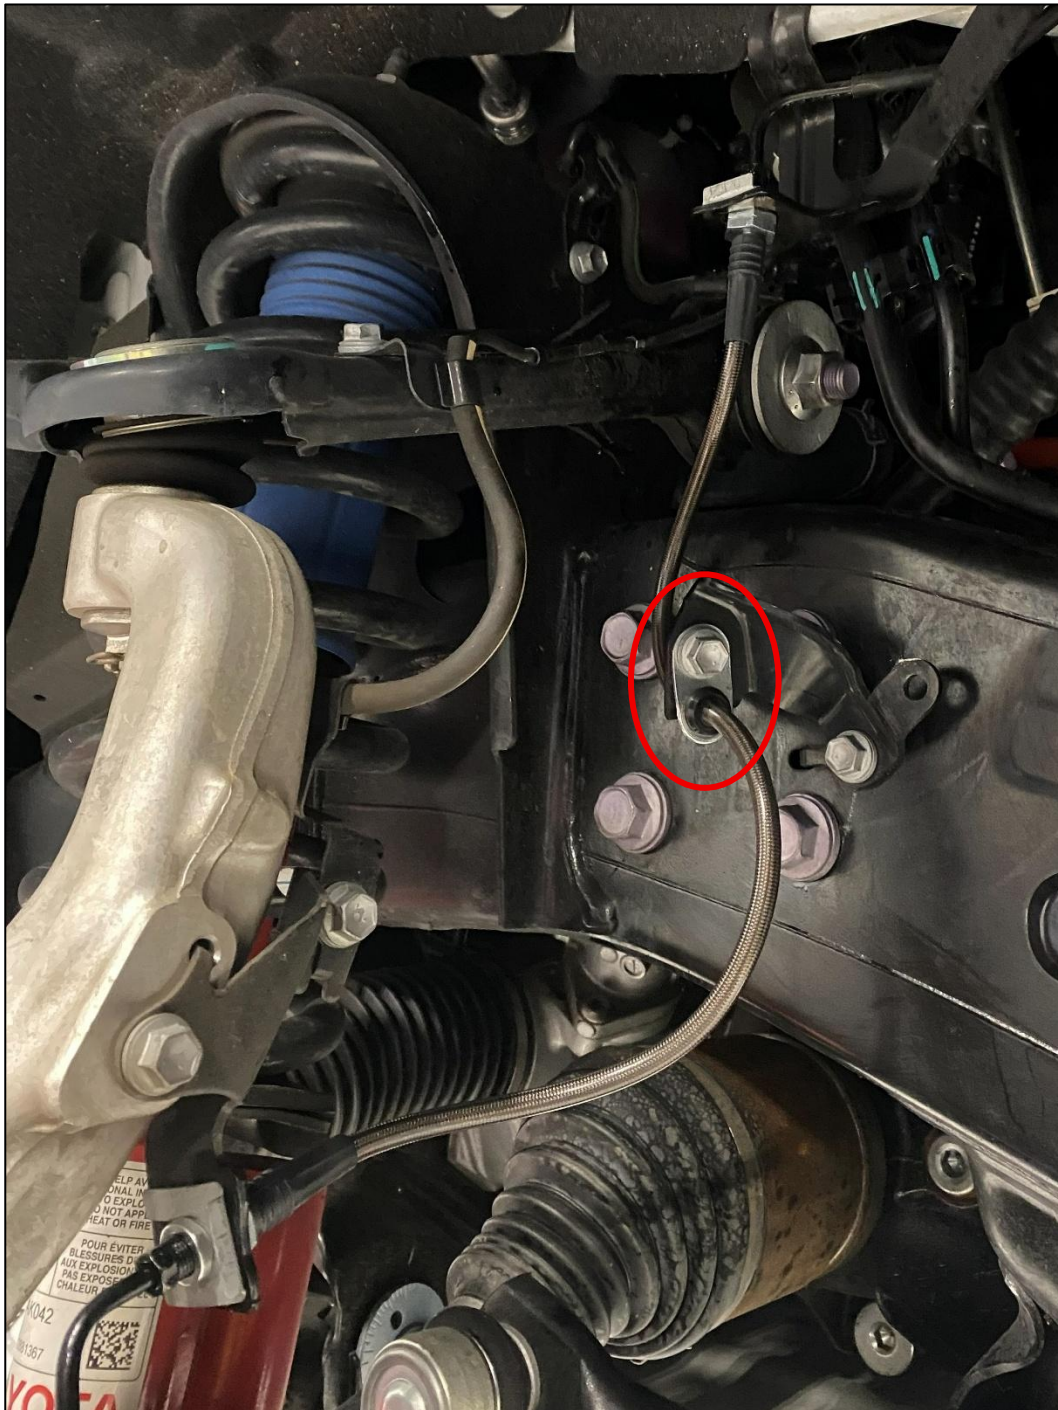

Figure 8
9. Use the bolt removed in *Step 4* to secure the mounting tab on the Brake Line to the OE Mounting Bracket. *Figure 8*.